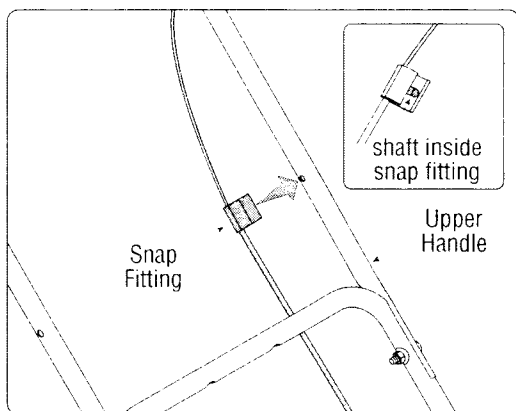

Figure 7: Installing the snap fitting.
5. Press the snap fitting in place as shown in Figure 7. Make sure that the blade control handle is on top of the upper handle.